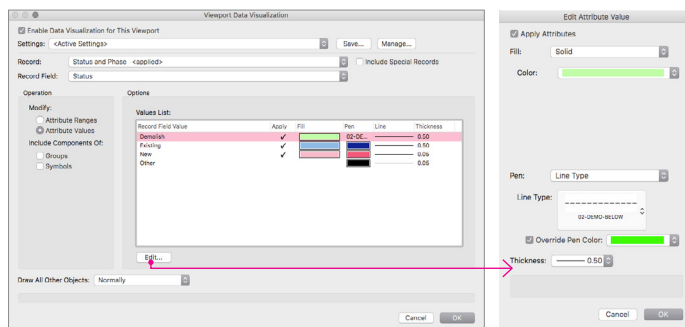

FIGURE 37
3. The **Values List** displays each record available for the viewport. Double-click or select the value and select **Edit**. Change the attributes as shown on **FIGURE 37**.